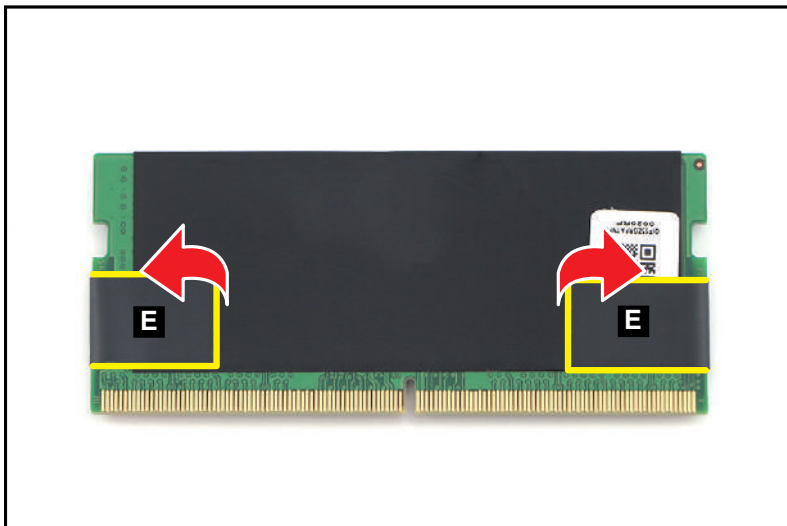

Figure 3-30. DIMM Module Removal
5. Detach the tabs (E) of the composite foil with thermal pad from the DIMM module as shown in Figure 3-30.